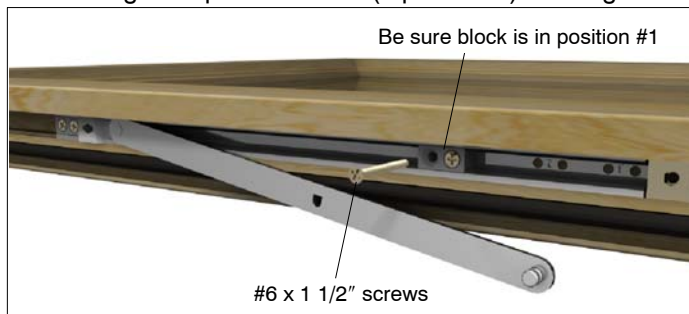

Figure 1
1. Open the sash. Apply the turn restrictor to the bottom rail of the sash, butting it up against the hinge in the corner. Attach it to the sash with #6 x 1 1/2" screws through the plastic blocks (2 per block). See figure 1.